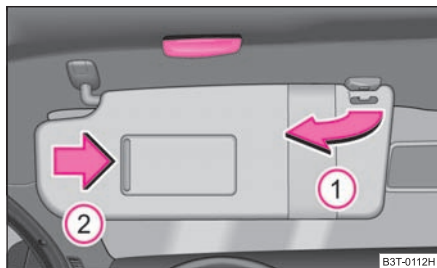

Fig. 55 Sun visor: swivelling out
You can pull the sun visor for the driver or front passenger out of the fixture and swivel it toward the door in the direction of the arrow ① ⇒ fig. 55.